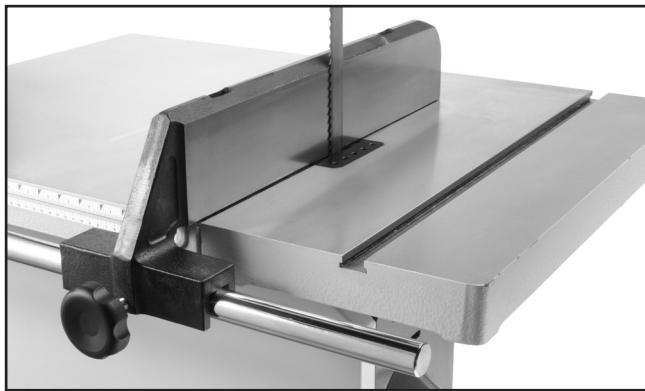

Figure 35. Example of fence flush with blade.
2. Place the fence flush against the bandsaw blade (**Figure 35**).